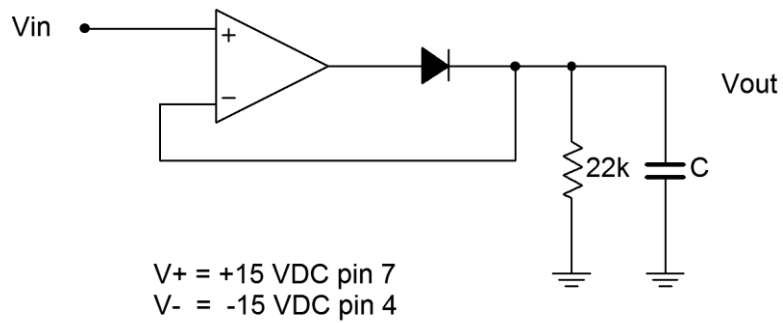

Figure 1
1. The circuit of Figure 1 is a precision half-wave rectifier. Without C, the circuit responds as an “ideal diode” allowing only positive half-waves through. The addition of C turns the circuit into peak detector or analog pulse-stretcher. Since all of the circuits in this exercise can produce DC components in the output signals, it is very important to take measurements with the oscilloscope input set to **DC coupled**.
2. Assemble the circuit of Figure 1 without the load capacitor.